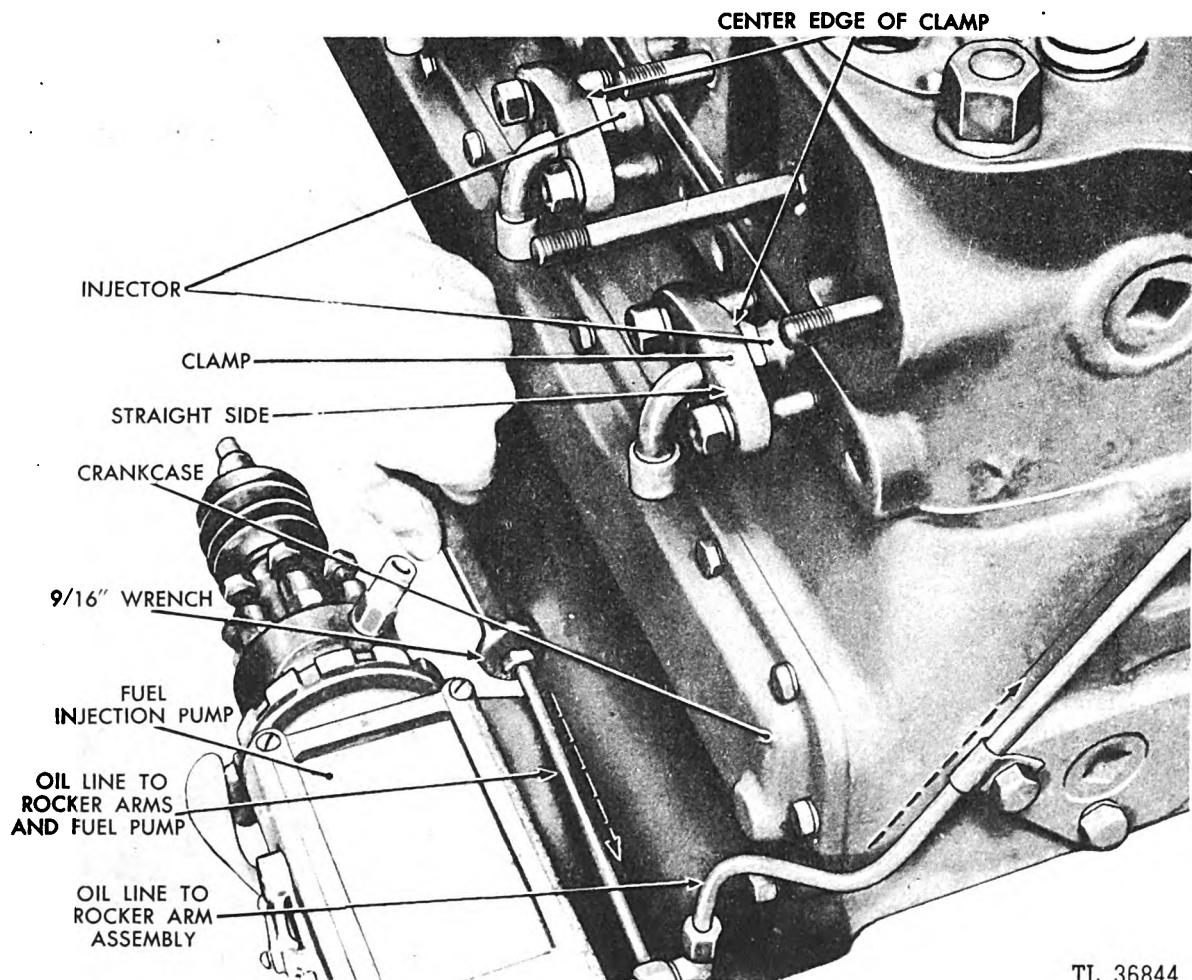

Fig. 192. Installing Fuel Pump Oil Line
(9) Install the oil lines to the fuel injection pump and cylinder head. (See Figure 192.)